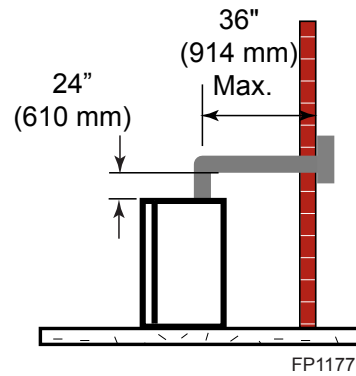

Figure 11 - Maximum Horizontal Run with No Rise
- A minimum of 24" is required before a 90° elbow. If a 90° elbow is fitted directly after 24" vertical section mounted to the top of the fireplace, the maximum horizontal vent run before the termination or a vertical rise is 36" (914 mm). *Figure 11*